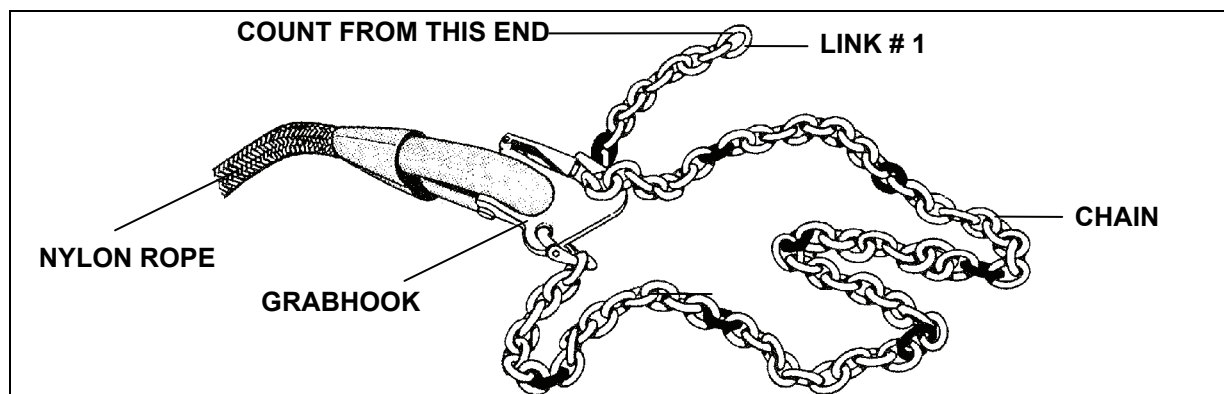

Figure 6-9. Chain Attached to Grabhook by Coupling Link
- Chains.** The welded steel-alloy chains for both sling sets are 8 feet long. Since the chain is used as a loop, this length allows for adjustments from approximately 0 to 4 feet. There are 110 to 115 links in the 8-foot section of the 10,000-pound capacity sling set and 84 to 88 links in the 25,000-pound capacity sling set. The links in the 25,000-pound capacity sling set are larger than those used in the 10,000-pound capacity sling set. Every tenth link is painted to help when you count the links. The chain is attached to the grabhook so that the free end will contain 10 links to the first painted link (Figure 6-9). If the tenth link from the free end is not painted, ensure the chain is correctly attached to the grab hook (not reversed). If the chain is attached correctly you may want to remove the paint from all of the painted links and repaint the links making sure you paint each tenth link starting from the free end. When rigging a load, always count the chain links from the free end. If an additional chain length is required by the rigging procedures, use a coupling link to add it to the existing chain.